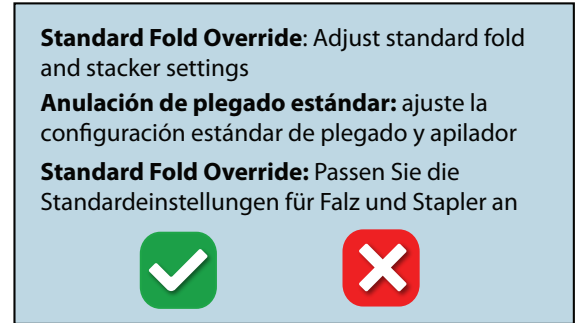

Fig. 31
2. “Standard folds will be modified from factory settings” warning will be displayed (Fig. 31). Press the green box with the check to continue or the red box with the X to exit and return to the operator screen.